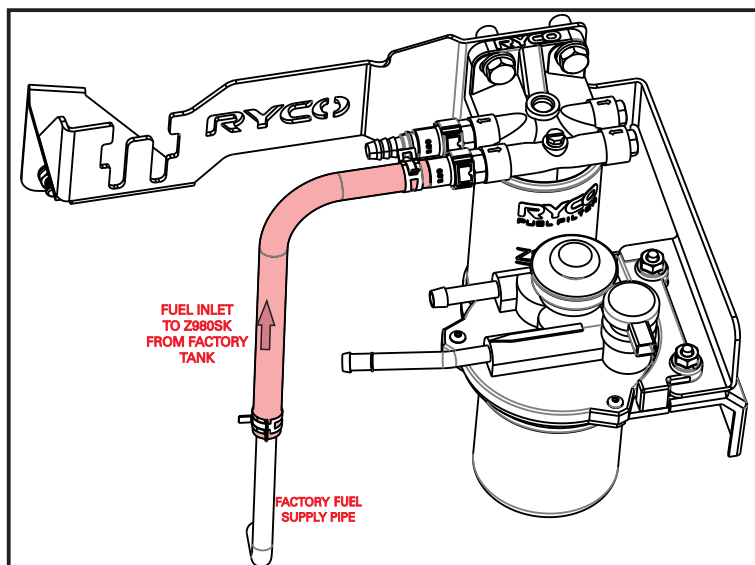

FIG. 6 FUEL INLET HOSE ROUTING
5. Mount the Z980SK fuel filter assembly onto the metal bracket using the two (2) black M10 bolts and washers supplied with the Z980SK.
6. Locate the factory fuel inlet hose at the factory fuel filter. Loosen the factory fuel hose clamp and disconnect the fuel supply line from the factory filter. Have a rag ready to capture any diesel that may spill out of the fuel line and the fuel filter inlet pipe. Connect the factory fuel inlet hose to the Z980SK inlet fitting, and secure with a fuel hose clamp. See Fig 6 for inlet hose routing.